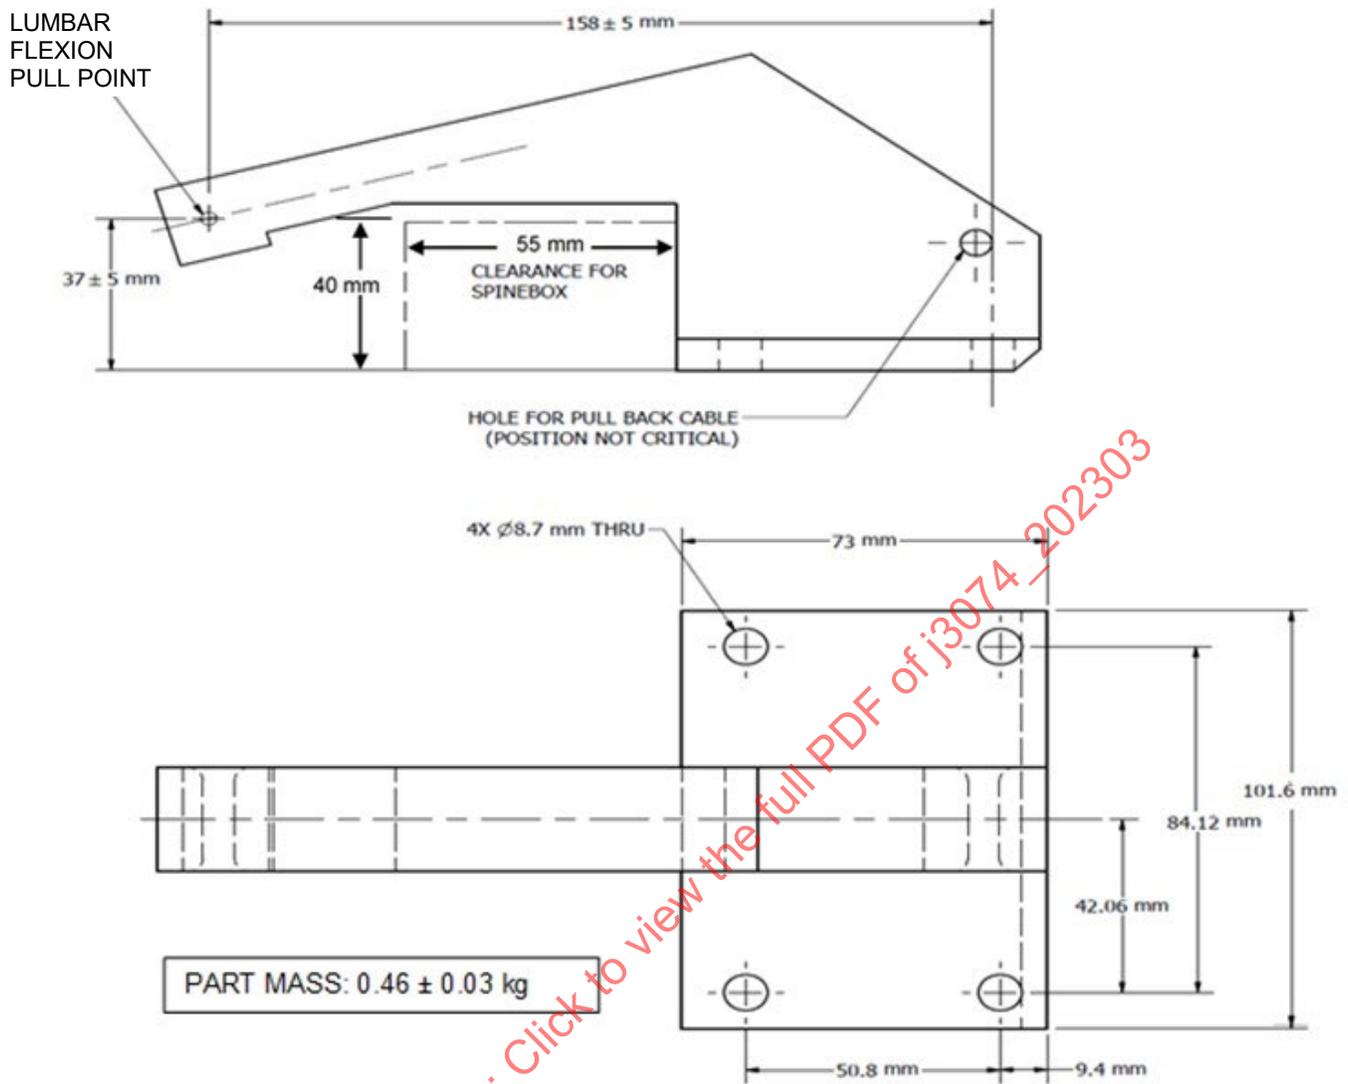

Figure 1 - Neck bracket replacement
- c. Neck bracket replacement: Figure 1 describes the generic shape, mass, and the pull point dimensions.